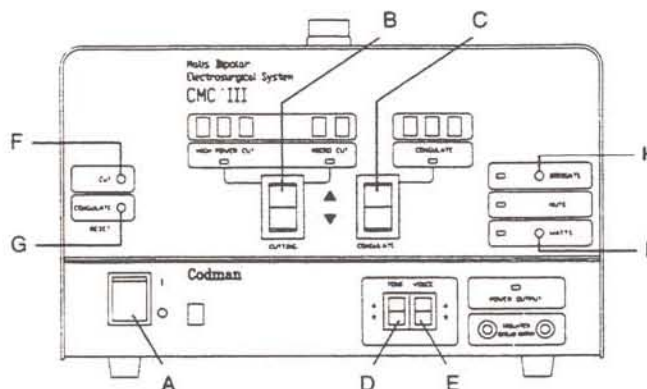
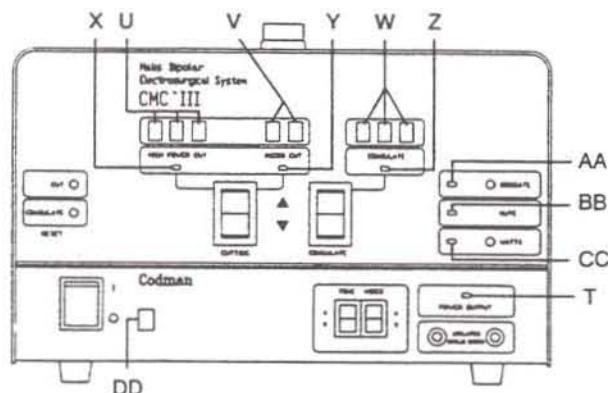

Figure 1. Front Panel Controls (Items A through I)
Figure 5. Front Panel Indicators (Items T through DD)
5.2 GENERATOR CONTROLS (Figures 1 and 2)
Used to control the volume of the tones which indicate cutting or coagulation power is being delivered to forceps. You can change the tone volume at any time during the operation of the CMC-III, except while cutting or coagulating. While you are using these controls, the tone volume settings appear in the Microcut Power Display Window (Item V in Figure 5). Afterwards, the display window again shows the actual microcut power setting.
Used to increase or decrease the volume of the voice synthesizer which announces the operating mode being employed and changes in the power settings. You can increase or decrease the voice volume at any time while using the CMC-III, except during cutting or coagulating. While you are using these controls, the voice volume settings appear in the Microcut Power Display Window (Item V in Figure 5). Afterwards, the display window again shows the actual microcut power setting.
When the MALIS Irrigator is properly set up and connected to the CMC-III, push this button to disable and enable irrigation. An additional irrigator button is located on the remote control set. The Irrigation Mode Indicator (Figure 5, Item AA) located on the generator will illuminate when the irrigator is enabled, regardless of which of the two switches is used.
Press this button to display the power settings in watts. The Watts Display Indicator (Figure 5, Item CC) illuminates whenever power settings show in watts.
Used to prevent the voice synthesizer from announcing the operating mode being employed and the power settings each time cutting or coagulating is performed. When the voice is muted, the Mute Indicator, Item BB in Figure 5, illuminates.
Use this button to increase or decrease the power setting for coagulation. (The Coag Power Control Switch on the generator, Item C in Figure 1, controls the same function.)
Increase or decrease the power setting for cutting by means of this button. (The Cutting Power Control Switch on the generator, Item B in Figure 1, controls the same function.)
When the MALIS Irrigator is properly set up and connected to the CMC-III, push this button to disable and enable irrigation. An additional irrigator button is located on the generator. The Irrigation Mode Indicator (Figure 5, Item AA) located on the generator illuminates when the irrigator is enabled, regardless of which of the two switches is used.
These three sets of windows show the power selections for high power cutting (Item U), microcutting (Item V), and coagulation (Item W). The power selections can be shown in either MALIS Units, or watts; use the Watts Display Button (Item I in Figure 1) to make your choice. When the genera-
If you choose watts to be displayed in the power indicator windows (Items U, V, and W, Figure 5) by pressing the watts display button (Item I, Figure 1), this green LED illuminates.
The voice indicator enables you to check or adjust the power setting and mode of operation without removing your eyes from the surgical site. As you change the power setting, the voice indicator announces each new setting. When you use the Cut switch (on either the remote control set or the footpedal) the voice announces either "Microcut" or "Cutting". It also announces the power setting before the generator delivers either cutting or coagulating power to the forceps. You can use the voice volume control (Item E in Figure 1) to change the volume of the voice.